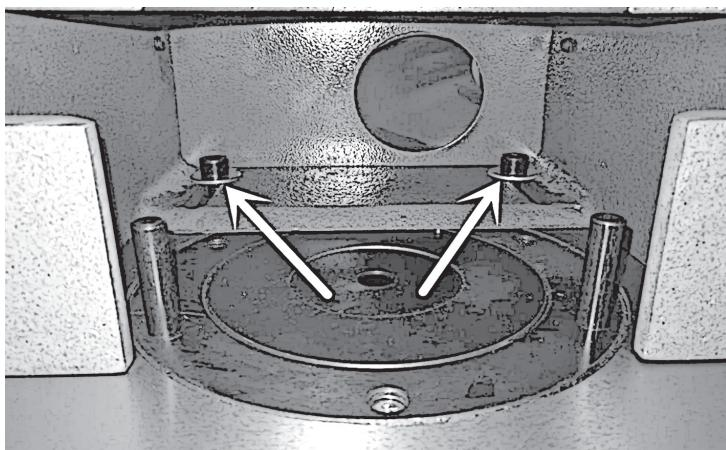

Fig. 14 Remove the cap screws.
- Remove the cap screws with hex wrench as shown in figure 14.